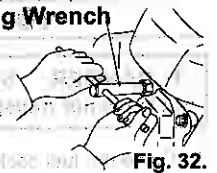
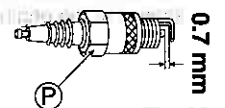

Fig. 32.
Fig. 33.
- 2 Remove Ignition plug (P) with the attached plug wrench. (See Fig. 32.)
- 3 Exchange Ignition plug (P) if a great amount of carbon is adhered to it or its insulator is cracked or damaged.
- 4 Remove the carbon adhered to the electrode, and adjust the electrode clearance to 0.7 mm. (See Fig. 33.)
- 5 Install Ignition plug (P) and Plug cap (Q).